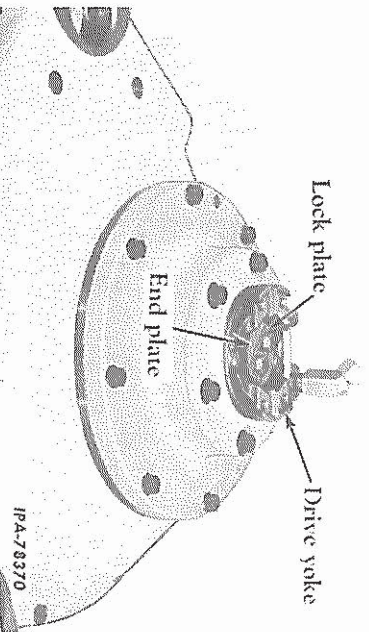

FIG. 11 — Drive Yoke, Lock Plate and End Plate Assembled
9. Turn the housing over so the drive yoke is up. Remove the capscrews, lock plate and end plate. Lift the drive yoke from the shaft splines (Fig. 11).